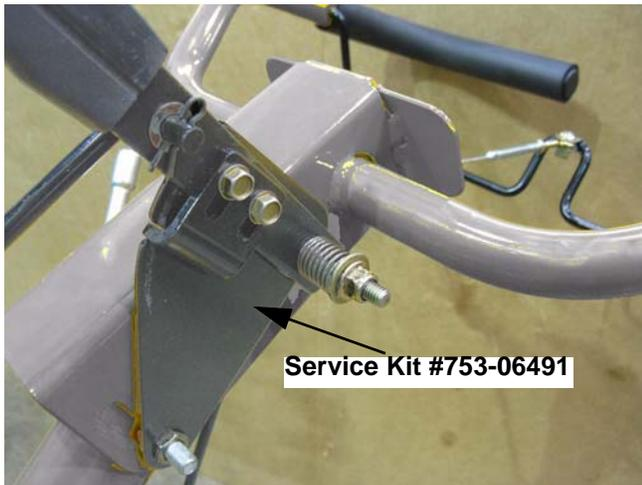

Figure 2.19
2. A service kit (753-06491) for 2010 tillers converts this lever to lock positively in the Tines Reverse tilling position. Production continues with the simple control lever. See Figure 2.19.